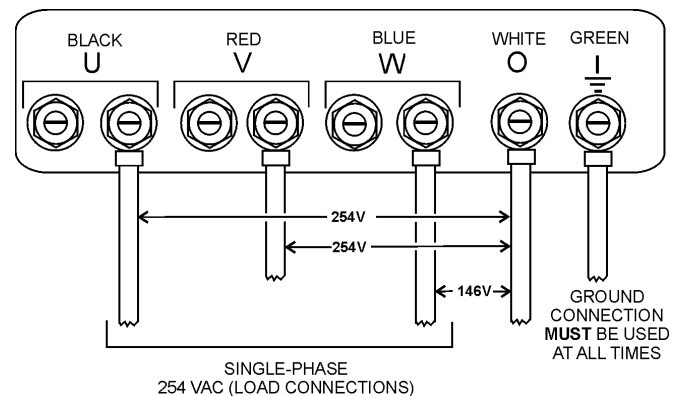

Figure 29. UVWU Terminal Lugs 1Ø-254V Connections
2. Connect the load wires to the UVWU terminals as shown in Figure 29.